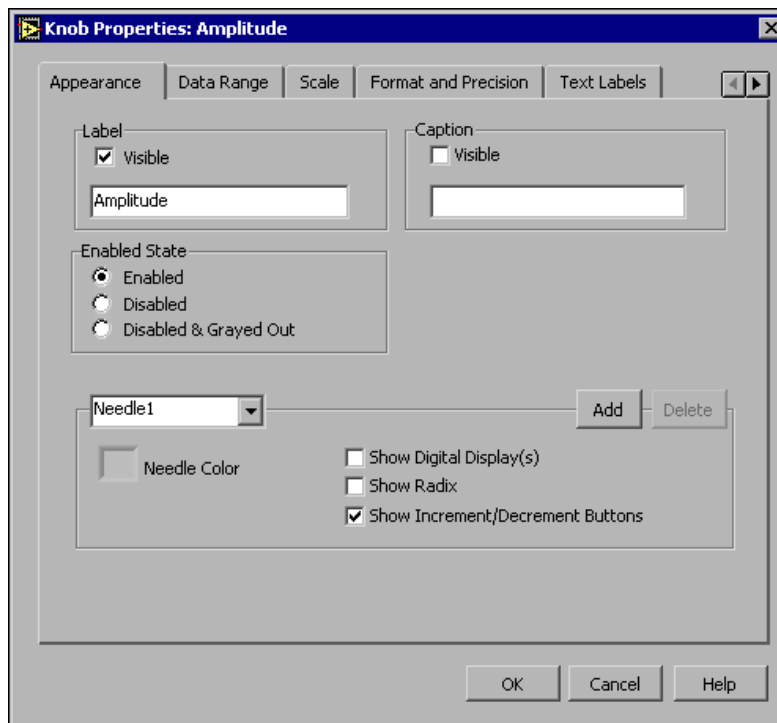

Figure 1.24
2. In the `Label` section on the `Appearance` tab, delete the label `Knob`, and type `Amplitude` in the text box. The `Knob Properties` dialog box should appear similar to Figure 1.24.